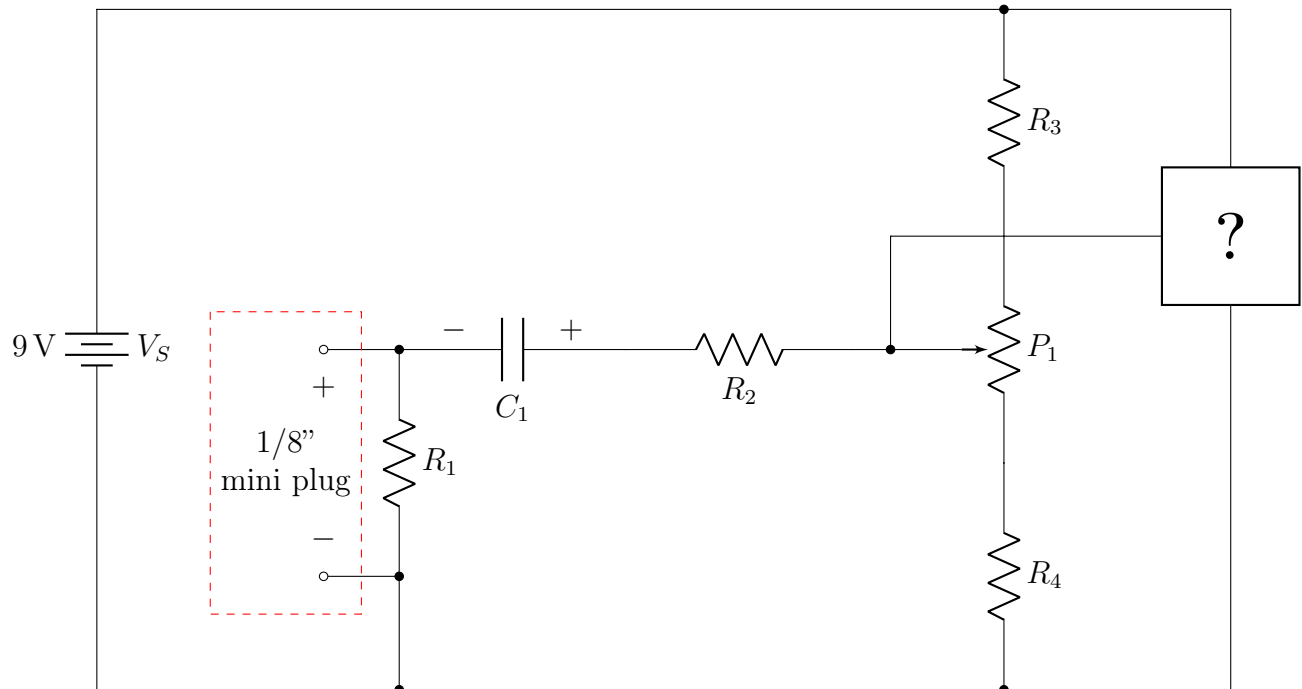

Figure 1: Music Transmitter Circuit with Mystery Load Elements
1. Build the circuit shown in Figure 1. From your knowledge of MOSFETs, LEDs, and current-limiting resistors from this lab and previous labs, determine in which order these 3 circuit elements (i.e. a BS170 MOSFET, a Red LED, and 100 Ω resistor) should be connected to produce an LED whose brightness varies with the amplitude of the input music signal or function generator time-varying signal that will be attached to the 1/8" mini headphone jack. Think about how the BS170 MOSFET should be oriented (Drain and Source pins) in order to be properly biased to turn on when a voltage at the Gate is applied.